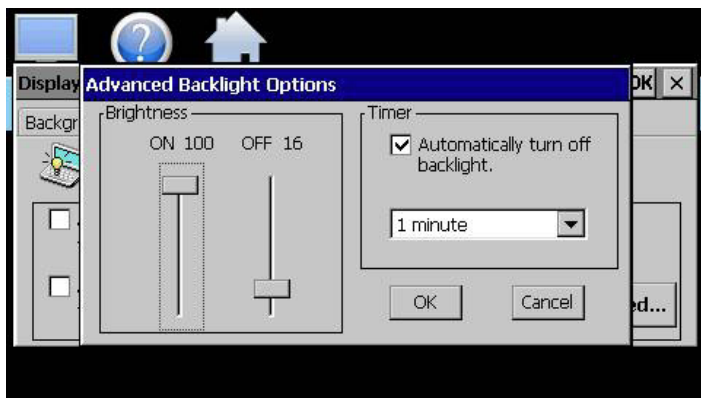

Fig. 115: Advanced Backlight Options
- Press the ADVANCED button to access the settings for the backlight (Fig. 115).